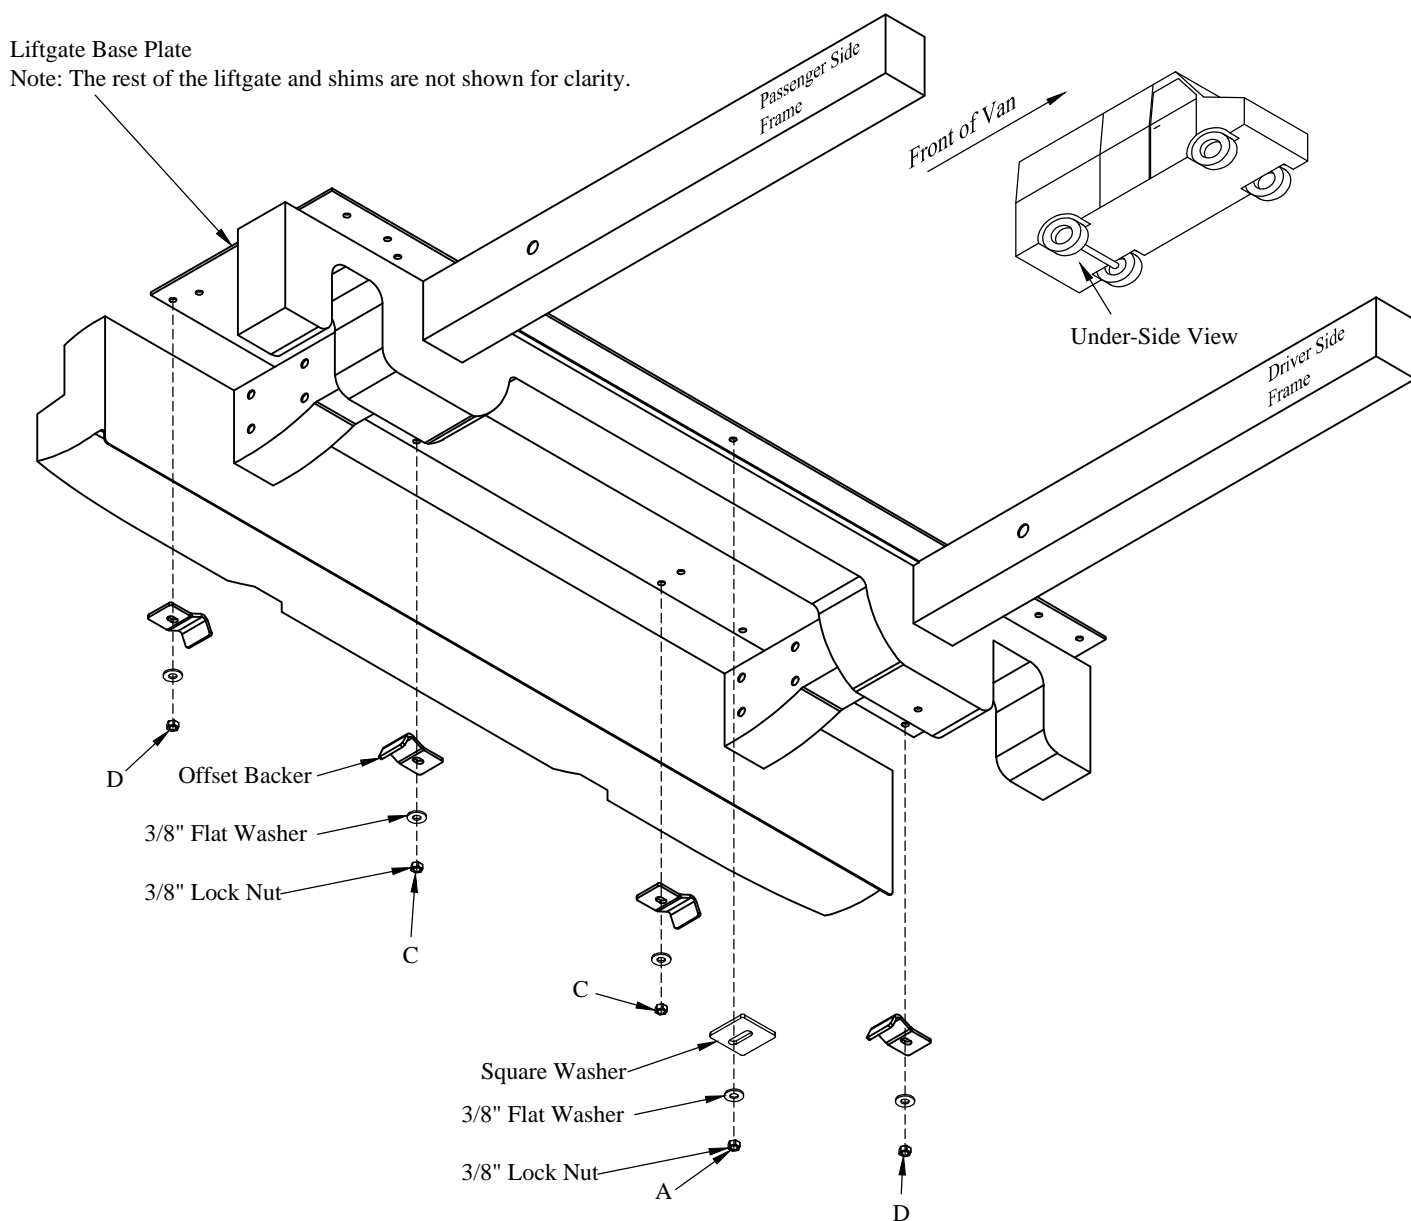

Figure 12: Under-side view of van.
5. **Install** an offset backer, 3/8" flat washer, and lock nut on each of the "C" and "D" location bolts (Figure 12).
6. **Install** a square washer, 3/8" flat washer, and lock nut on the "A" location bolt (Figure 12).